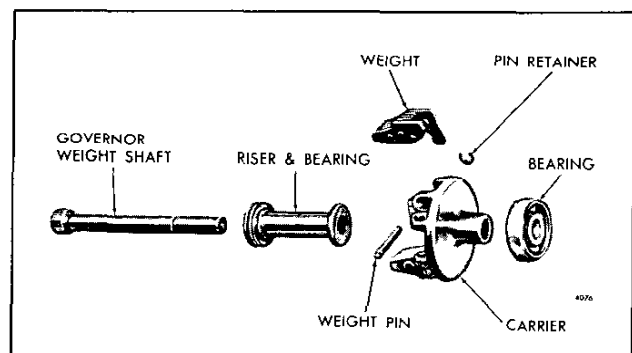

Fig. 10 - Governor Weight Details and Relative Location of Parts
1. Remove the retaining rings from the governor weight pins (Fig. 10). Then drive the pins out of the carrier and the weights. Remove the governor weights